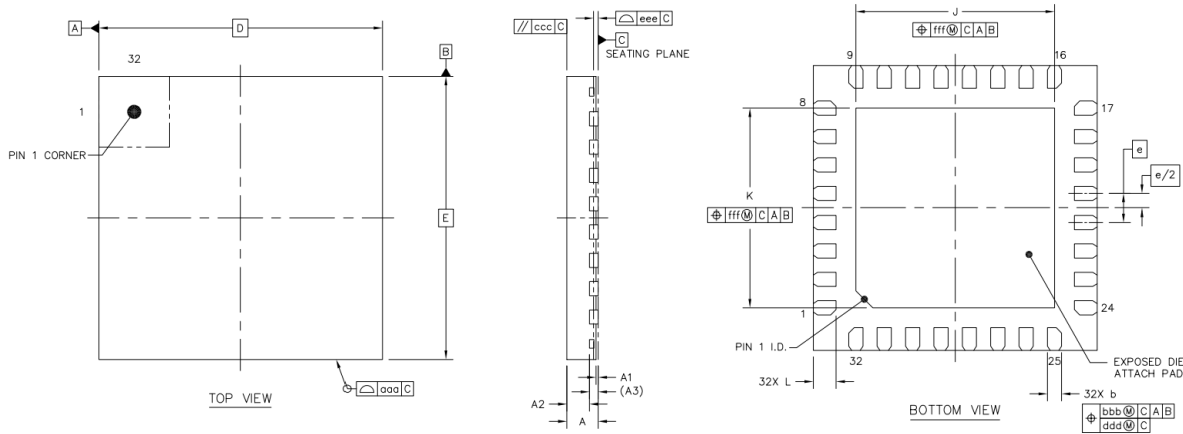

Figure 6 Package Symbol
- PIN 1# on the figure 6 is Pin 1